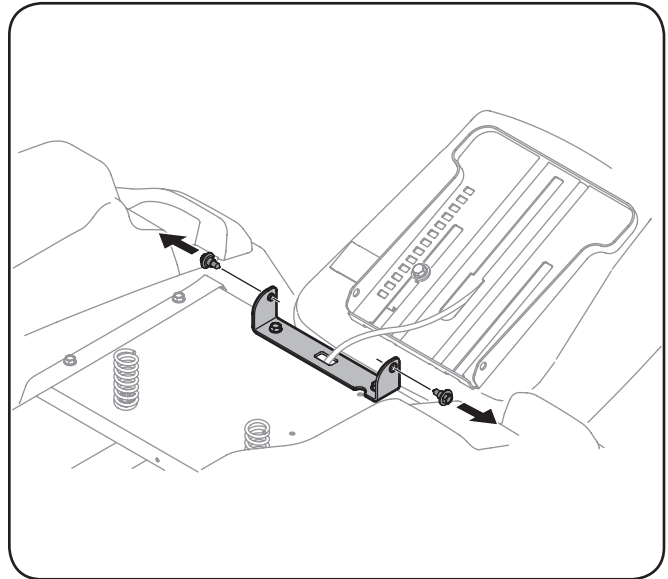

Figure 3-4
2. Remove the two shoulder screws in the seat pan as shown in Fig. 3-4.